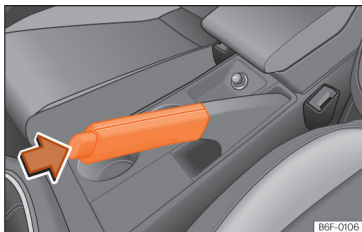

Fig. 116 Handbrake between the front seats.
- Pull the handbrake lever up >>> Fig. 116.
- Pull the lever slightly up, press the unlock button in the direction of the arrow >>> Fig. 116 and lower the lever completely >>> △.